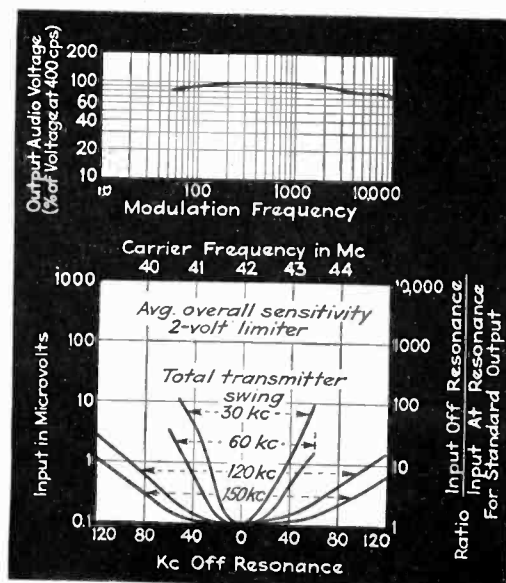

Fig. 2—Fidelity, sensitivity, and selectivity curves of the four receivers. The characteristics are identical except in the width of the acceptance band
1. *The frequency characteristics* (Fig. 2) of each of the four systems measured are similar *i.e.*, there seems to be no limitation in providing a good frequency characteristic with any system of transmitter swing.